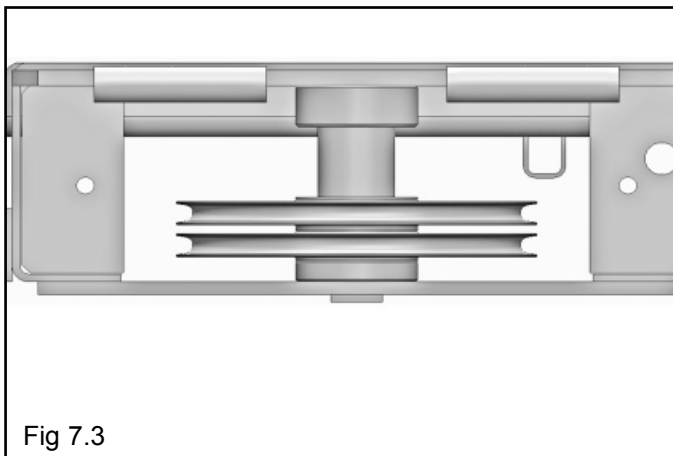

Fig 7.3
4. You must reinstall the SHEAVES, AND PINS in the same order as they are removed.. (See Fig. 7.3 - 7.6)